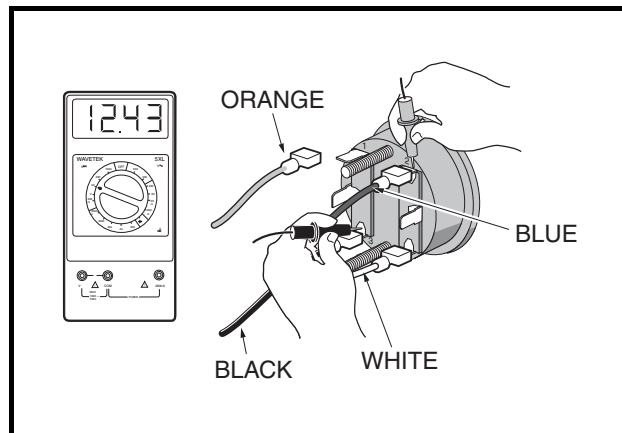

Figure 11-37 Test Fuel Gauge Continuity
6. Set a multimeter to 20 volts DC and place the red (+) probe of the multimeter on the (2) terminal of the fuel gauge/hour meter with the blue wire. Place the black (-) probe on the (3) terminal of the fuel gauge/hour meter with the black wire (**Figure 11-37, Page 11-34**).
8. Turn the key switch ON. The voltage reading should be the same as the battery voltage reading recorded earlier. If not, check the continuity of the blue and black wires (**Figure 11-37, Page 11-34**).